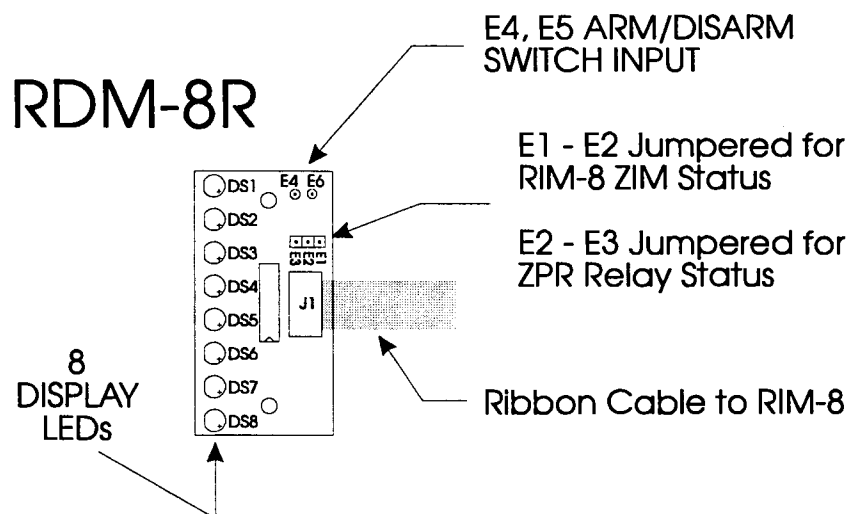
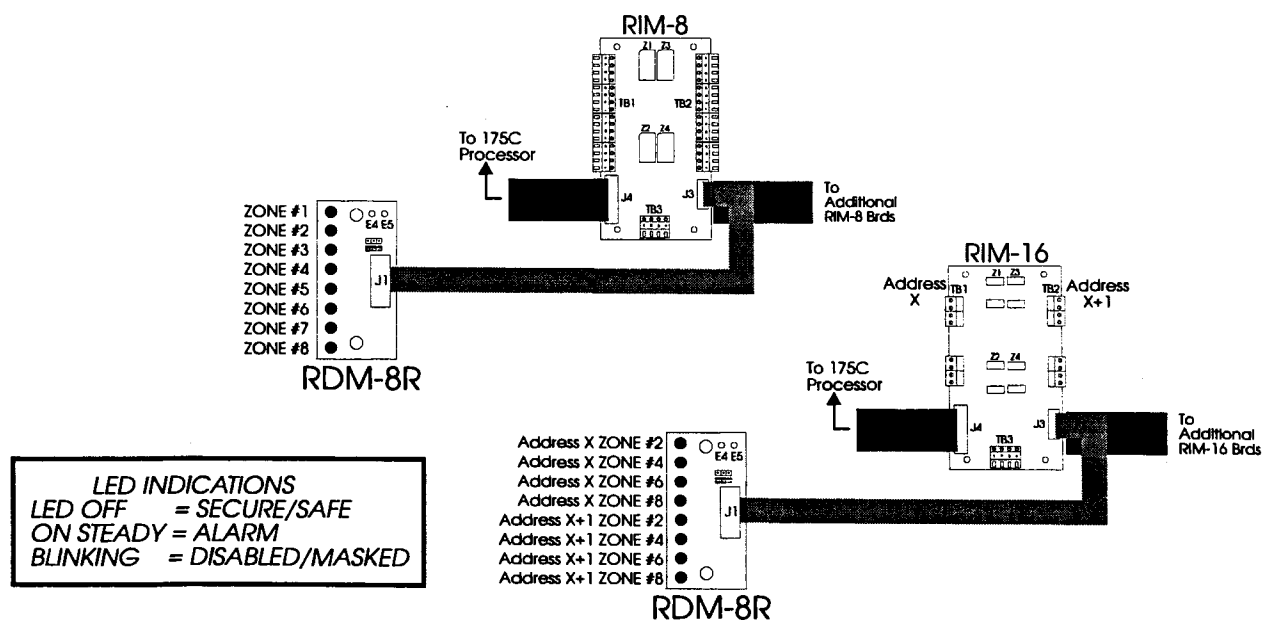

Figure 3-25. RDM-8R REMOTE DISPLAY MODULE
Figure 3-26. RDM-8R REMOTE DISPLAY MODULE CONNECTION
The RDM-8R Remote Display Module (Figure 3-25) is a small, eight (8) zone LED display device that mounts on the front door of the RTU enclosure, typically with the LEDs showing through the enclosure door. For service personnel, RDM's have also be installed on the enclosure door with the LED's facing in, so as not to compromise security. The RDM-8R provides eight (8) bright red LED's and connects directly to the RIM-8 or RIM-16 module, or via an RDD or ZPR Relay board. This serves to provide a real time status display of the alarm input zones for the RIM it is connected to, or of the Relay Outputs linked to that RIM, right there at the RTU without having to call the Control Center to get the status. The RDM-8R connection is via a 10-conductor ribbon cable that is permanently attached to the RDM. Each RTU can contain one RDM-8R for each RIM within the enclosure. Jumpers E1, E2 and E3 are set whether the RDM will display alarm zone status or ZPR Relay Output status. When the RDM-8R is connected to a RIM-8, each LED corresponds to the one of the eight input zones of the RIM-8 board. If the RDM-8R is connected to a RIM-16, the LEDs will correspond to the EVEN numbered alarm zones only. This is because the RIM-16 actually has 16 input zones, however the board supports ONLY 2-wire supervised monitoring, reporting FAULT conditions on the odd numbered zones and ALARM conditions on the even numbered zones are the alarm conditions for each zone pair. Only Alarms are displayed with the RIM-16. See Figure 3-26.